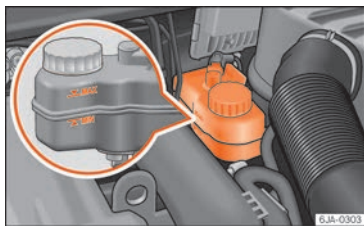

Fig. 246 Engine compartment: coolant tank.
- Check the brake fluid level in the reservoir **>>> Fig. 246**. It should be between the “MIN” and “MAX” marks.